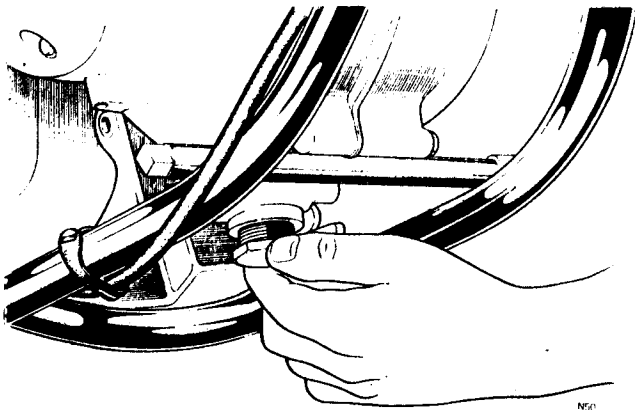

Fig. C17 Showing crankcases supported by a bar to remove sump filter
- 10 The sump filter can now be removed completely and the engine lifted vertically to enable the crankcase to be drained. *Fig. C17* shows the crankcases supported by a bar from below whilst the sump filter is removed with the fingers after slackening at an earlier stage.